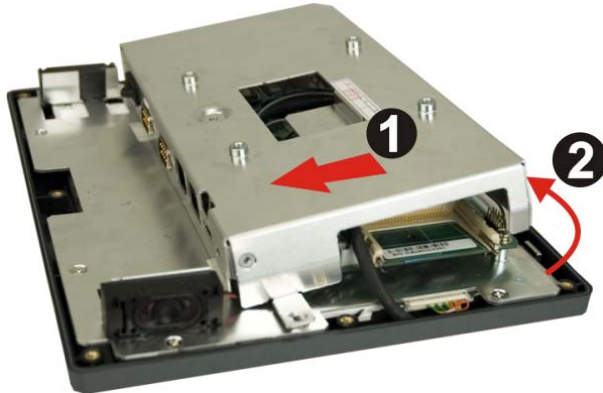

Figure 4-6: The Internal Aluminum Cover Removal
Step 5: Push the external interface connector apart from the aluminum cover and lift the cover (**Figure 4-6**).